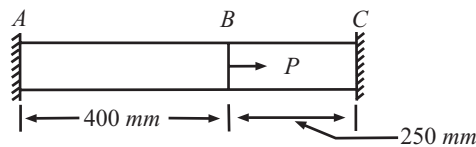

Fig 14.24
- Q. 40:** A square bar of 25 mm side is held between two rigid plates and loaded by an axial pull equal to 300kN as shown in Fig. 14.24. Determine the reactions at end A and C and elongation of the portion AB. Take $E = 2 \times 10^5 \text{ N/mm}^2$.